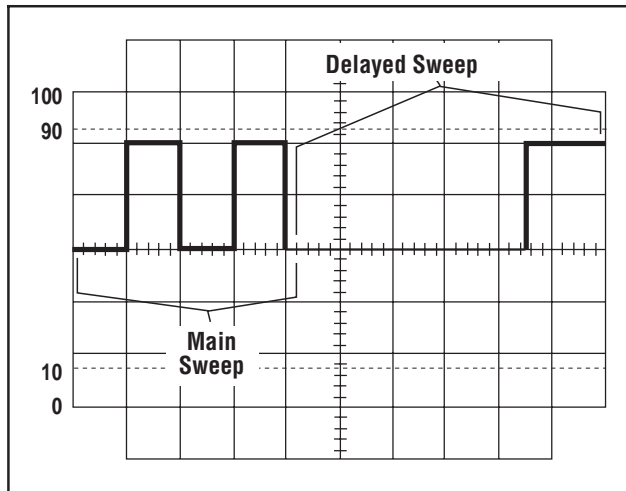

Fig. 5. MIX SWEEP MODE Display.
## DELAYED SWEEP OPERATION (Models 2125C & 2160C) (Refer to Fig. 5)
2. Set the **Sweep Mode** switch to the **MIX** position. The display will show the main sweep on the left portion (representing the **MAIN Time Base** control setting) and the delayed sweep on the right portion (representing the **DELAY Time Base** control setting). The **MAIN Time Base** portion of the trace usually will be brighter than the delayed time base portion. Fig. 5 shows a typical display for the **MIX** display mode.